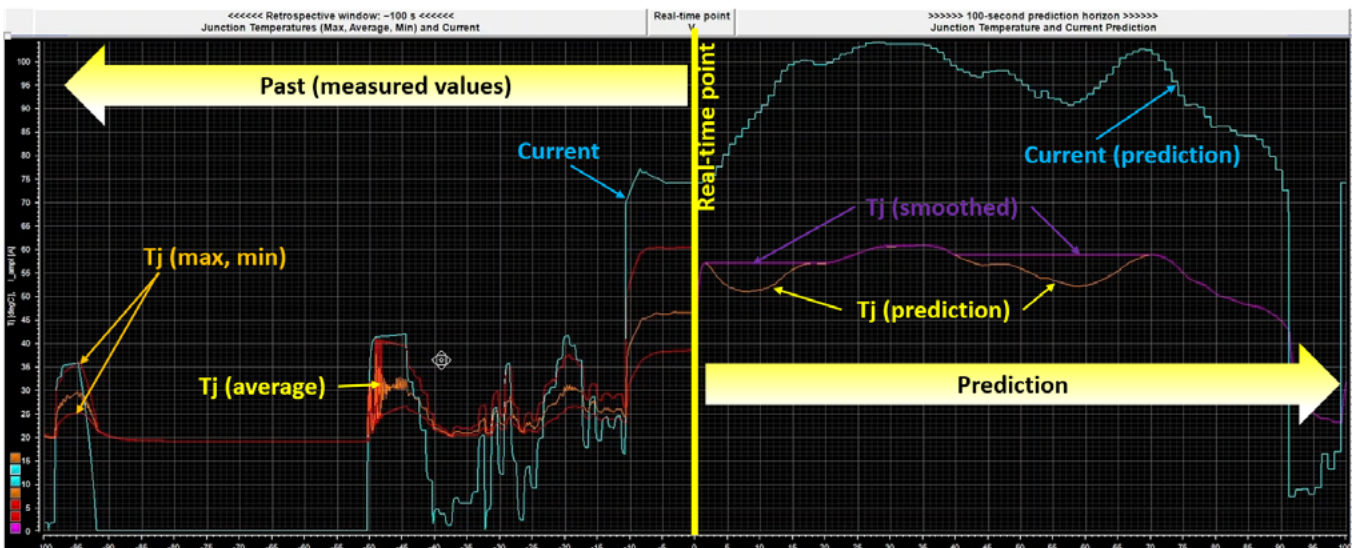

Figure 4: Testing with FTP75 drive cycle data
- obtain realistic data for training the neural network SoH model and testing its performance (Figure 4).